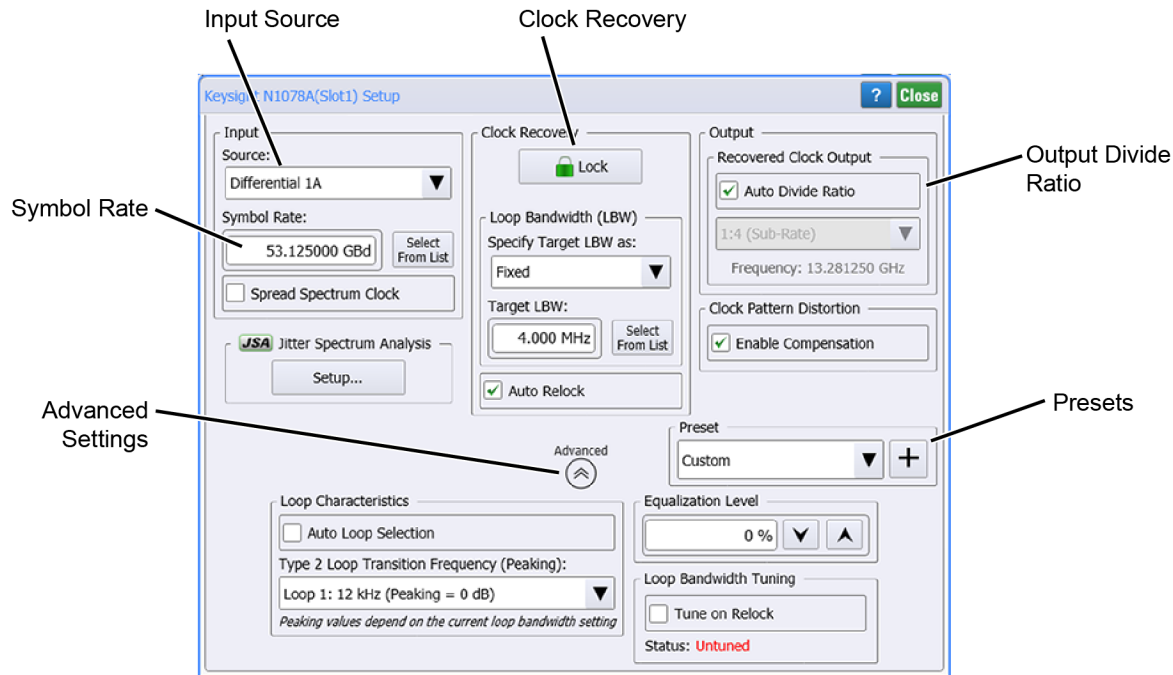

Figure 59. Clock Recovery Setup Dialog Box
6. Click **Setup > Modules > (Slot 6): Clock Recovery**. The dialog shown *Figure 59 on page 111* is displayed. The picture does not show settings required for this procedure.